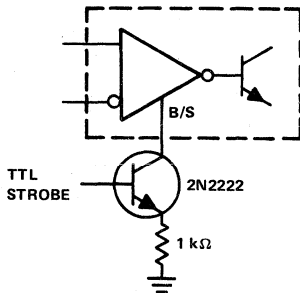

FIGURE 13. STROBING
6. The strobe should not be shorted to ground; it should be current driven at -3 to -5 mA , e.g., see Figures 13 and 27.